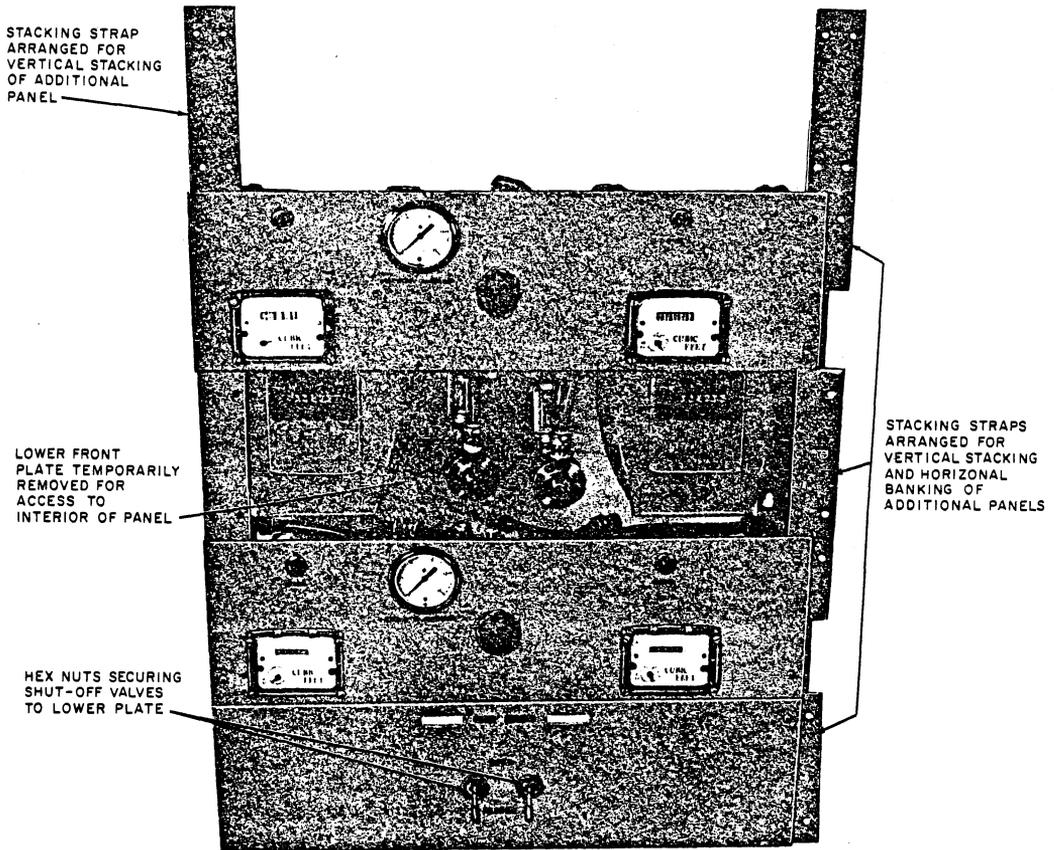

Fig. 3—Front View of Stacked C Meter-Panels
5.01 Panels may be stacked (mounted vertically) and/or banked (mounted horizontally) to best utilize the available space in the CO. Adjoining panels are connected structurally with stacking straps, as shown in Fig. 3.
- (1) Remove the two hex nuts securing the two shutoff valves to the lower plate (Fig. 3).
- (2) Remove the four screws securing the lower plate to the frame and the two screws securing the lower plate to the upper plate (Fig. 3).